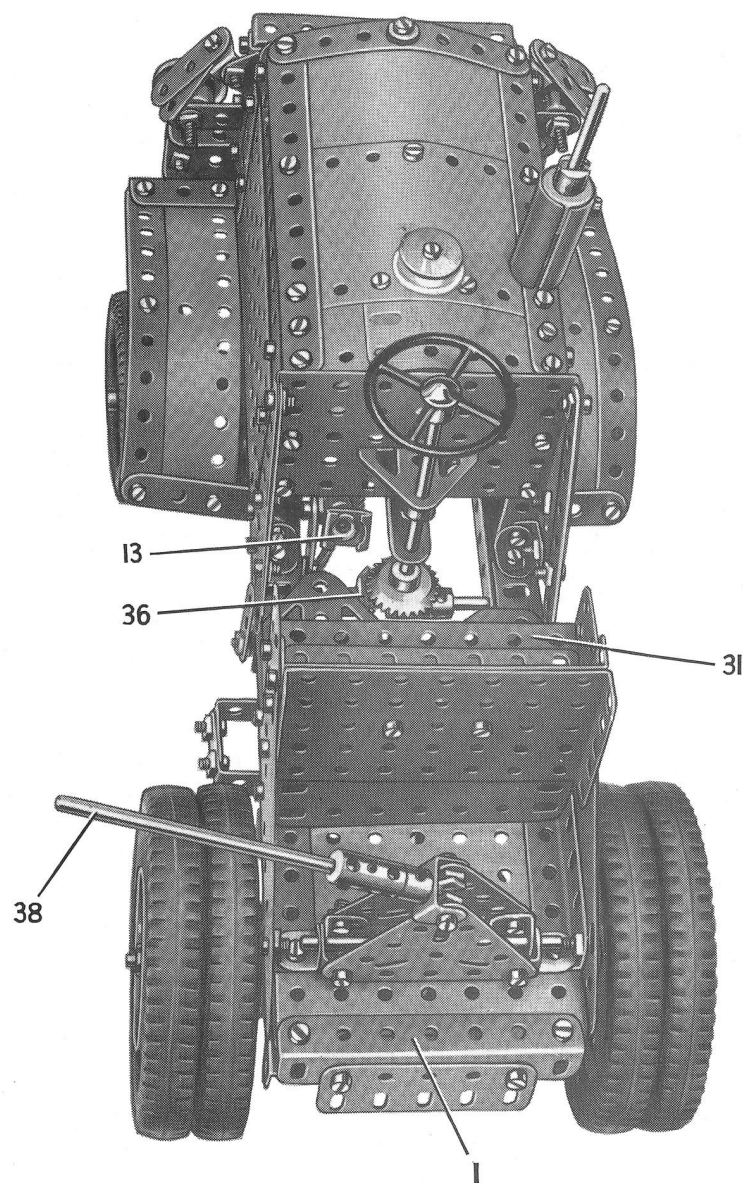
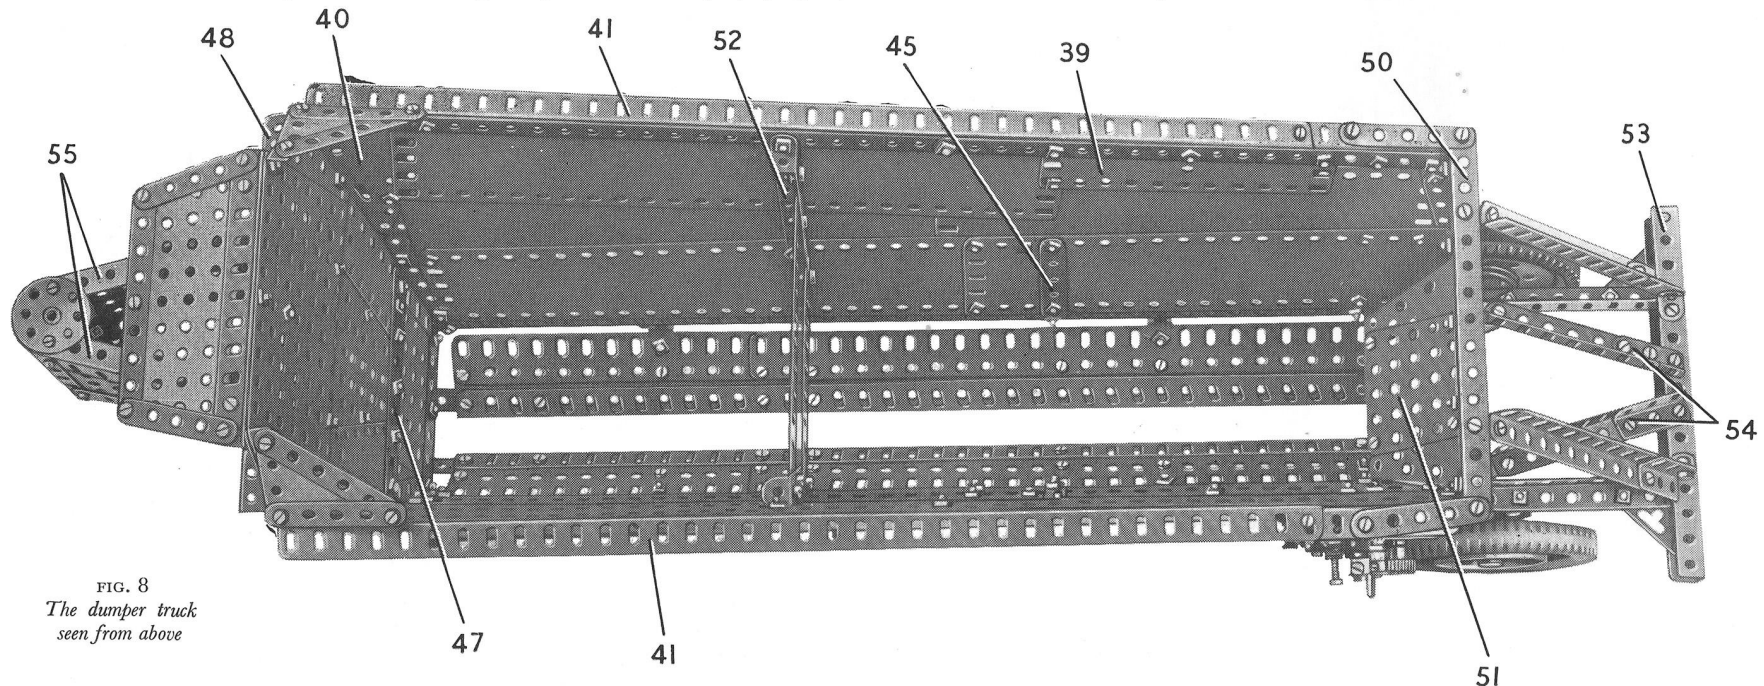

FIG. 5
FIG. 8
The clutch is disengaged by pressing a pedal (13) (Fig. 5), formed by a Slide Piece on a  $4''$  Rod. A Collar is fixed on this Rod immediately below the Slide Piece, and a  $1\frac{1}{2}''$  Strip (14)
The top of the bonnet is filled in by two  $3\frac{1}{2}$ "  $\times$   $2\frac{1}{2}$ " Flexible Plates and two  $2\frac{1}{2}$ "  $\times$   $1\frac{1}{2}$ " Flexible Plates edged by Strips (Fig. 5). The Plates are curved slightly and the assembly is attached to the sides of the bonnet by Obtuse Angle Brackets. A  $\frac{3}{4}$ " Flanged Wheel, capped by a  $\frac{3}{4}$ " Washer, is fixed to the top by means of a  $\frac{3}{4}$ " Bolt.
The driver's seat is formed by two  $3\frac{1}{2}" \times 2\frac{1}{2}"$  Flanged Plates placed back to back and extended by a  $3\frac{1}{2}" \times 2\frac{1}{2}"$  Flexible Plate (see Fig. 5). A  $3" \times 1\frac{1}{2}"$  Flat Plate and a  $3\frac{1}{2}" \times 2\frac{1}{2}"$  Triangular Flexible Plate are bolted to each side as shown (Fig. 2), and these parts are fastened to  $3\frac{1}{2}"$  Angle Girders fixed to the chassis. A  $3\frac{1}{2}"$  Angle Girder (31) (Fig. 5) is connected to the Flat Plates by Angle Brackets, and a  $3\frac{1}{2}"$  Flat Girder behind Girder (31) is supported by a  $1\frac{1}{2}"$  Angle Girder bolted to the Flanged Plates.
The steering column is a  $4\frac{1}{2}"$  Rod supported in a Trunnion and a  $1" \times 1"$  Angle Bracket bolted to the back of the bonnet (Fig. 5). The Rod carries a  $\frac{7}{8}"$  Bevel Gear, and its lower end enters the centre hole of a Coupling mounted
### The Coupling Pivot for the Dumper (Fig. 5)
### Construction of the Dumper: The Body (Figs. 8 and 9)
Each side of the dumper body is formed with three  $12\frac{1}{2}" \times 2\frac{1}{2}"$  Strip Plates, two  $9\frac{1}{2}" \times 2\frac{1}{2}"$  Strip Plates, a  $5\frac{1}{2}" \times 1\frac{1}{2}"$  Flexible Plate (39) (Fig. 8) and a  $3\frac{1}{2}" \times 2"$  Triangular Flexible Plate (40). These Plates are bolted together as shown in Figs. 8 and 9, and are edged along the top by a girder (41), made from an  $18\frac{1}{2}"$  Angle Girder and a  $3"$  Angle Girder. A girder (42), made from a  $5\frac{1}{2}"$  Angle Girder and a  $2"$  Angle Girder, is bolted along the front edge of each side and is connected to a  $24\frac{1}{2}"$  Angle Girder (43) by an Obtuse Angle Bracket. The side is strengthened by two  $5\frac{1}{2}"$  Strips (44), a  $3"$  Strip (45) and a built-up strip (46), the lower ends of these Strips being bolted to the Girder (43). The strip (46) consists of a  $5\frac{1}{2}"$  and a  $3"$  Strip.
The front ends of the Girders (55) are connected by a U-section Curved Plate and two Bush Wheels, as shown in Figs. 8 and 9. The Rod (38) (see Fig. 5) of the motor unit passes through the Bush Wheels to form the coupling between the motor and the dumper.
### The Dumper Doors and Operating Mechanism (Figs. 8, 9 and 10)
The floor of the dumper takes the form of two opening doors each made from two  $12\frac{1}{2}$ " Flat Girders, two  $7\frac{1}{2}$ " Flat Girders and an  $18\frac{1}{2}$ " Angle Girder, arranged as shown in Figs. 8 and 9. Two  $1" \times \frac{1}{2}"$  Angle Brackets are bolted to each door, and a bolt is fitted with a nut and then is passed through each Angle Bracket. Two Collars (57) are screwed tightly on to the bolts and then an  $11\frac{1}{2}"$  Rod is pushed through them. The Rods are supported in Handrail Supports